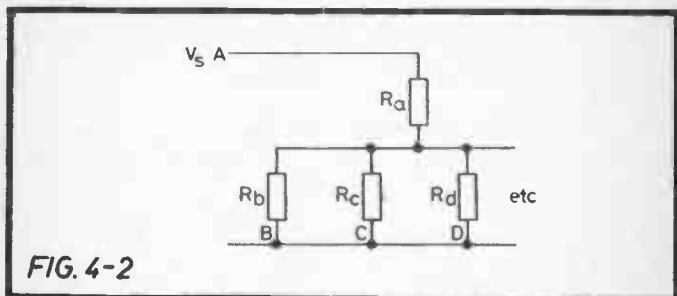

FIG. 4-2
3. Put point A to +ve, so the situation is that of Fig. 4.2.